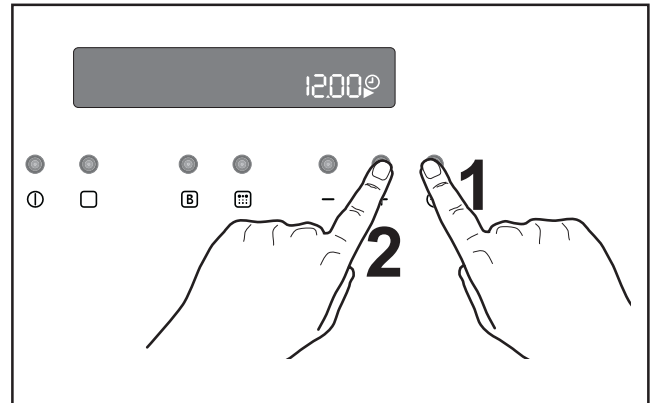

Fig. 2
1. press time function button  and, while the symbol  is flashing, set the correct time of day by pressing buttons “-” or “+” (Fig. 2).